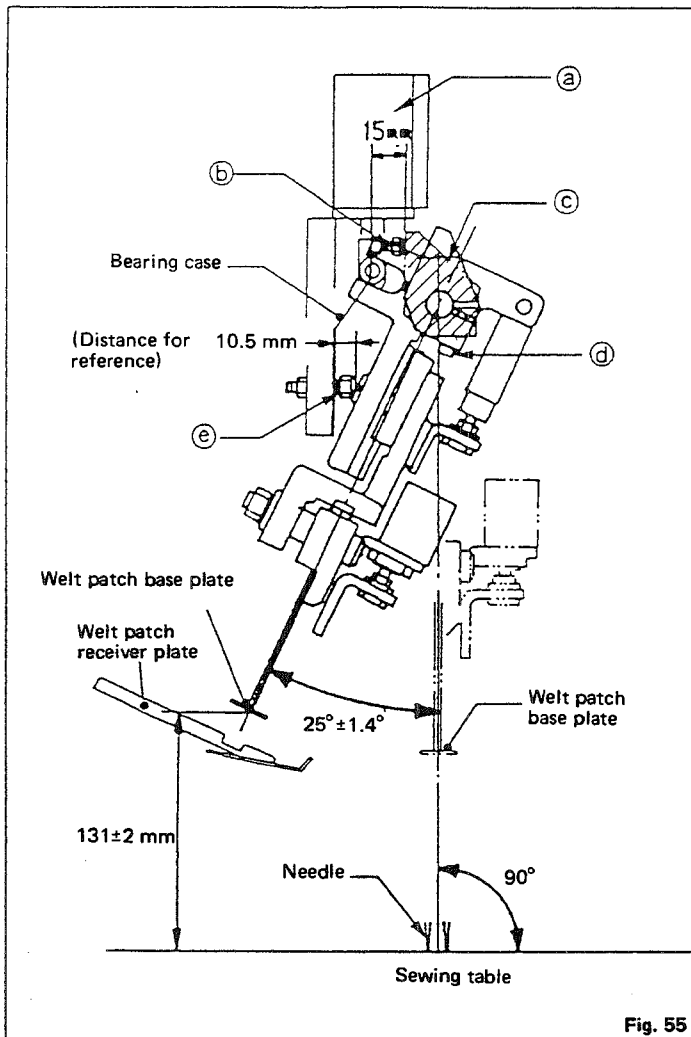

Fig. 55
Adjust so that the relevant parts are positioned as illustrated in Fig. 55 at both ends of oscillating action of the binder oscillating cylinder (a).
1. Adjust the oscillating end position (welt patch grasping point) by bolt (e). Determine the jutting out amount of adjusting bolt (e) so that the distances and positionings of the related parts are obtained as illustrated in Fig. 55. Then tighten the lock nut.
Jut out adjusting bolt (b) from the bearing case by approx. 15 mm. Then loosen set bolt (d) and adjust so that stopper (c) lightly contacts the tip of the adjusting bolt and is positioned as illustrated in Fig. 55.